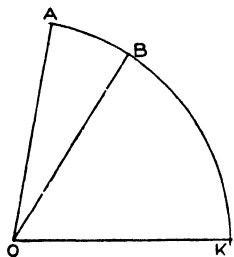

Fig 1.
3. Construct an arc of a circle with the arbitrary radius OK as shown in Fig. 1. Choose arc BK equal in length to the radius OK , and draw OA and OB . From (a).